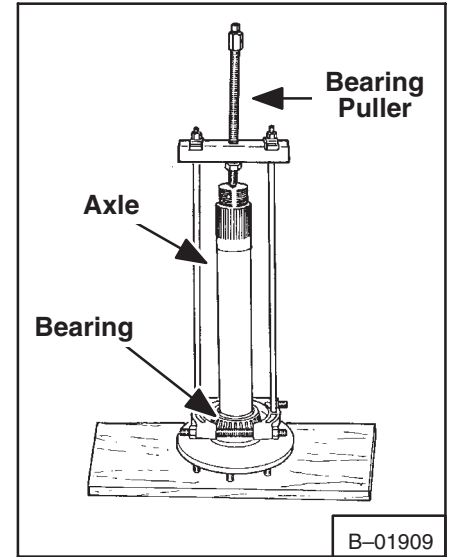

Fig. 4-22 Removing Outer Axle Bearing
3. Remove the outer bearing from the axle (Fig. 4-22).